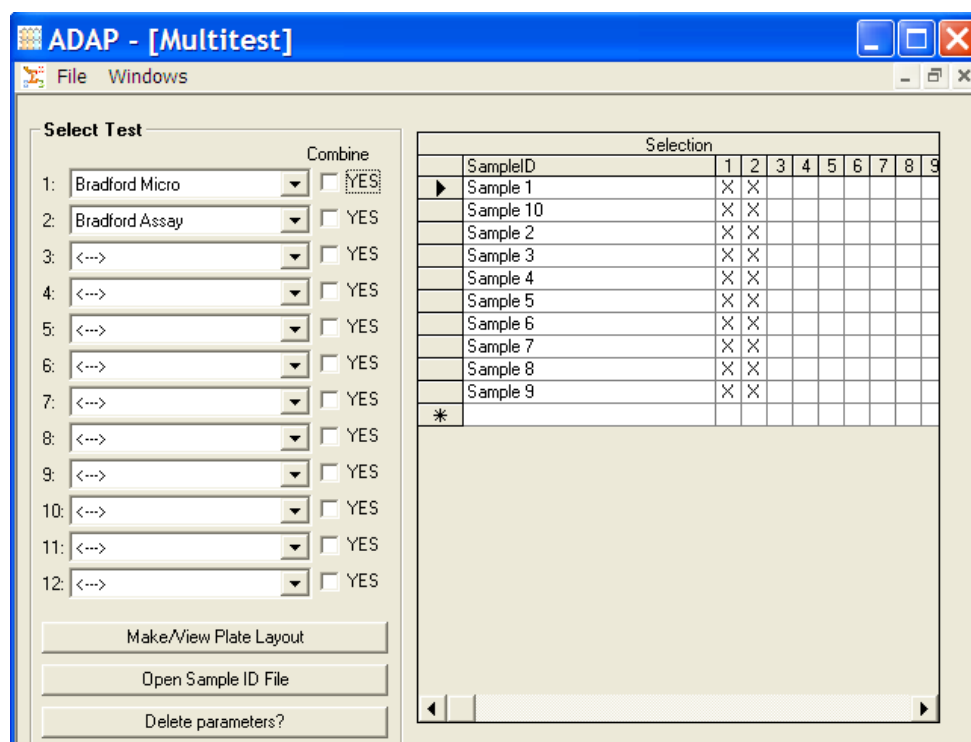

Figure 9-2: Multitest assay with tests selected and sample IDs assigned
1. In Select Sample IDs, click a **SampleID** field and enter the sample ID (Figure 9-2).